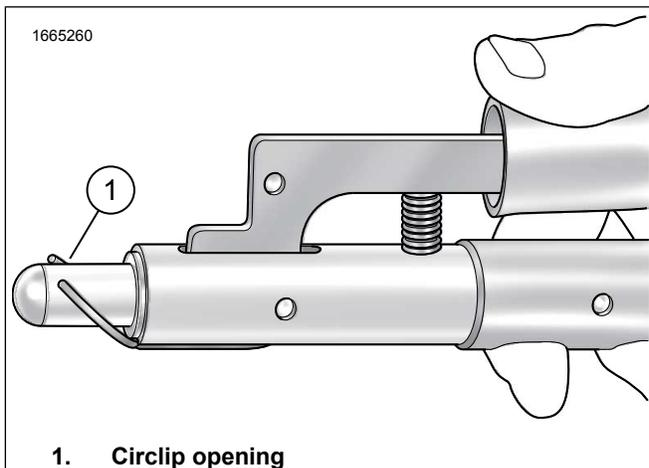

Figure 3. Position Circlip
- See Figure 3. Position circlip opening (1) at 12 o'clock on special tool.